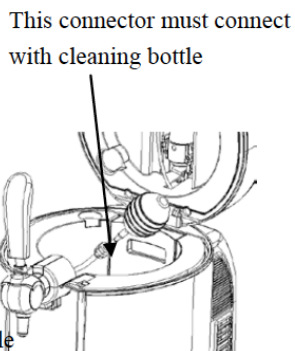

Figure 30
2. And connect the end of piercing pin, press the water into the pin to clean the pin tube, and push the water out from the beer tube at the other end. And repeat this cleaning work till the beer tube clean (need 3 bottles warm water at least), please clean the beer tap mechanism as figure 30. Note: Please disassemble the tap when make the cleaning.